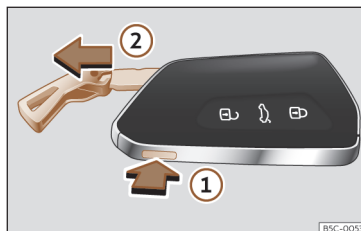

Fig. 66 Vehicle key: remove the key blade.
- Press the >>> **Fig. 66 ①** button to release the ring from the key fob and remove the key blade **②**. Pressing lightly on the ring leaves it fixed as a key fob.
- Press the >>> **Fig. 66 ①** button to unlock. Press and hold button **①** and at the same time pull on the ring in the direction of the arrow >>> **Fig. 66 ②** to completely remove the key blade.